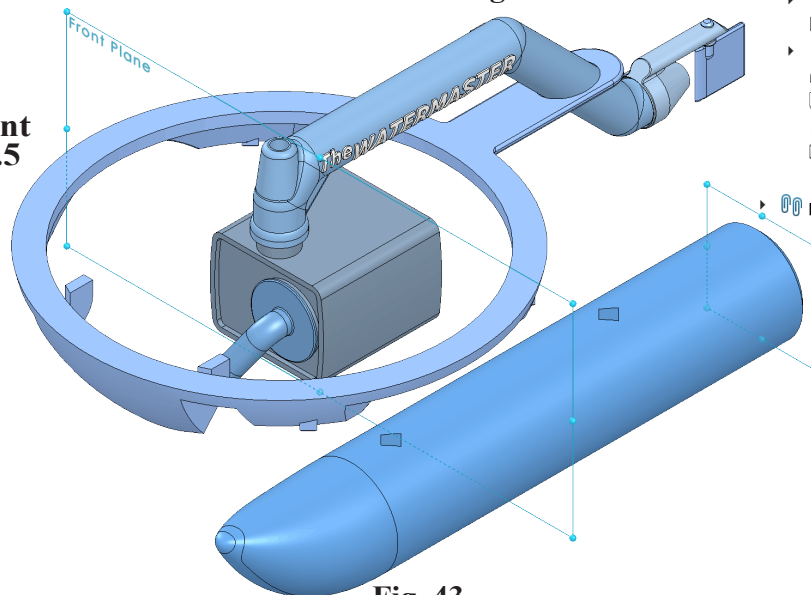

Fig. 43
Step 3. Click **Distance**  in Mate pop-up, **Fig. 42**. Set **distance 85.5** and press ENTER. The Pontoon should be somewhat centered on the Assembly, **Fig. 43**. If positioned in opposite direction, click